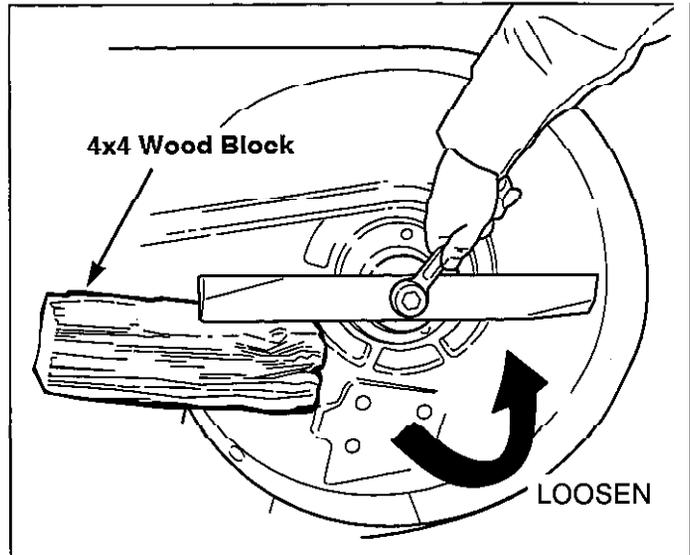

Figure 29. Removing the Blade
3. To remove blade for sharpening, use a wood block to hold blade while removing the blade mounting cap-screw (Figure 29).